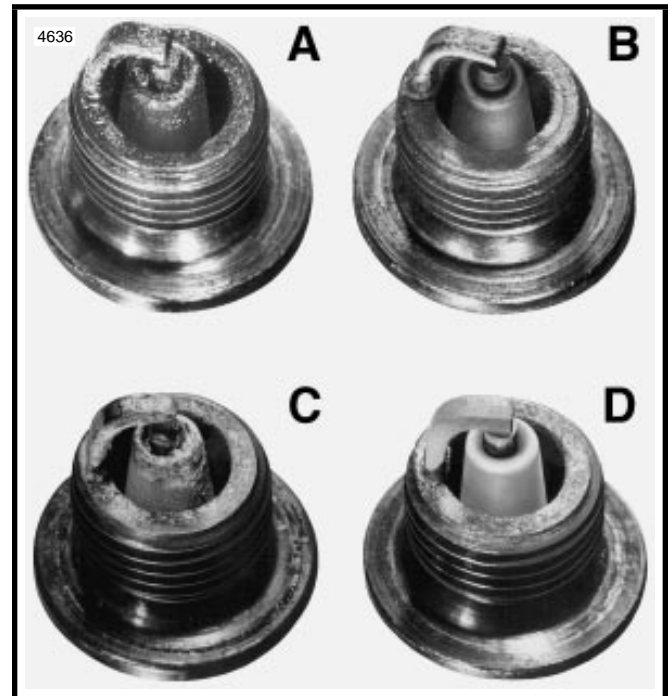

Figure 1-37. Typical Spark Plug Deposits
3. See Figure 1-37. Compare your observations of the plug deposits with the descriptions provided below.